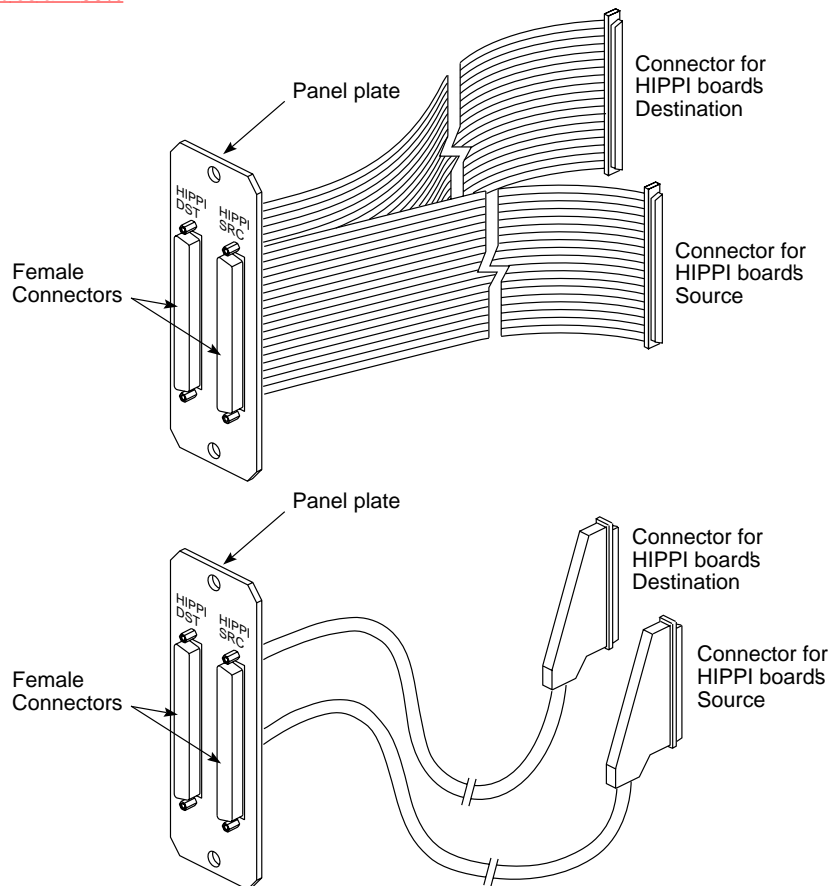

Figure 2-29 Internal HIPPI Cable Assembly (Two Different Styles)
1. Locate the internal cable assembly that consists of the HIPPI I/O panel plate with two internal HIPPI cables attached. The cable assembly is one of the styles shown in Figure 2-29.